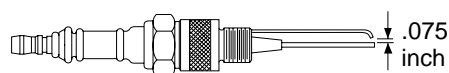

Figure 9 - Spark Plug Gap
5. Clean and regap spark plug electrodes to .075 inch (see Figure 9).